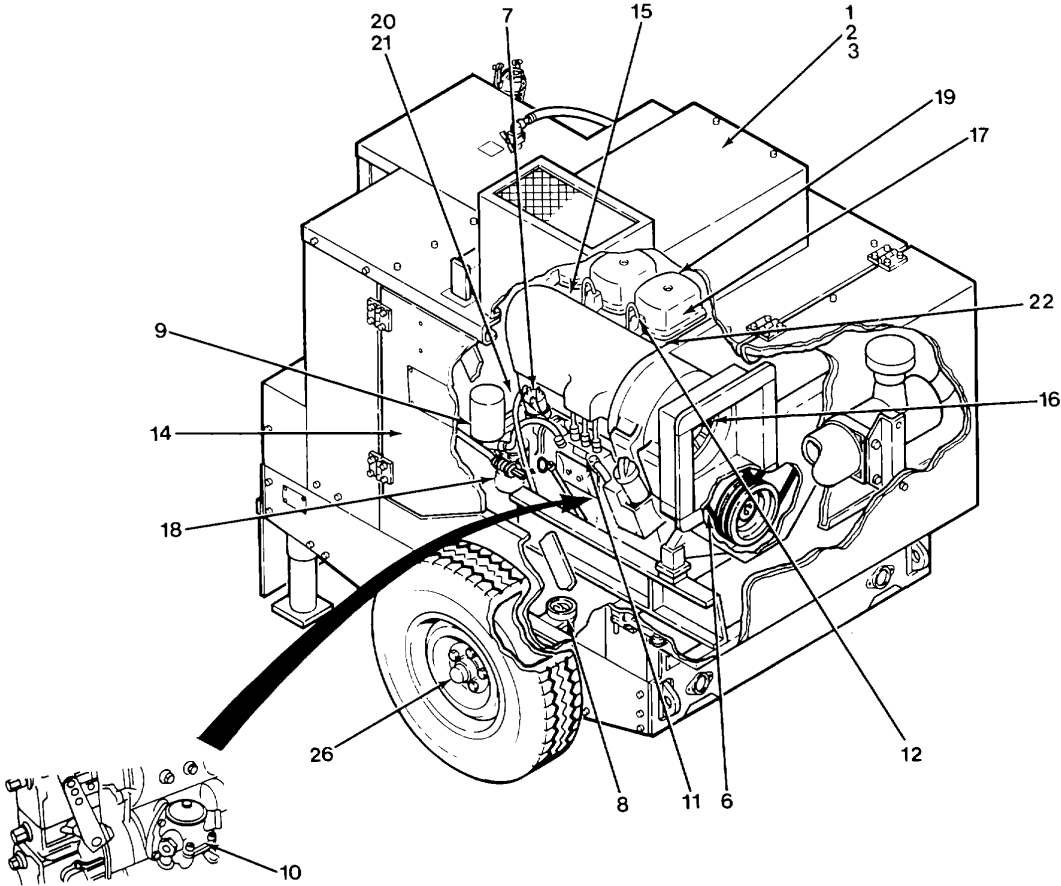

Figure 4-1. PMCS Locations (Left Side View)
- c. Items to be Inspected Column. This column lists the part or group of parts to be checked and serviced. These parts are identified in figures 4-1 and 4-2.